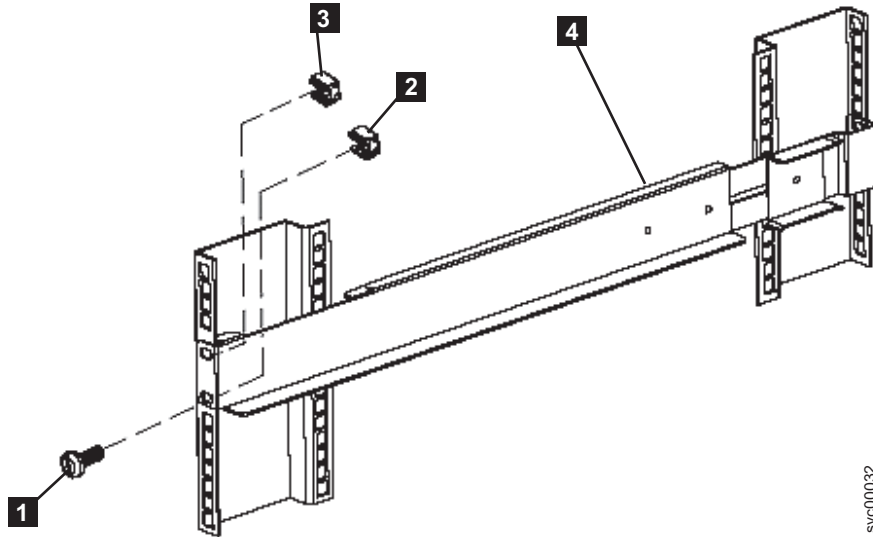

Figure 29. Securing the front rail on the 2145 UPS-1U
8. Attach only the bottom hole of the rail to the front of the rack with one M6 × 10 screw and one clip nut (**1** in Figure 29 on page 38).